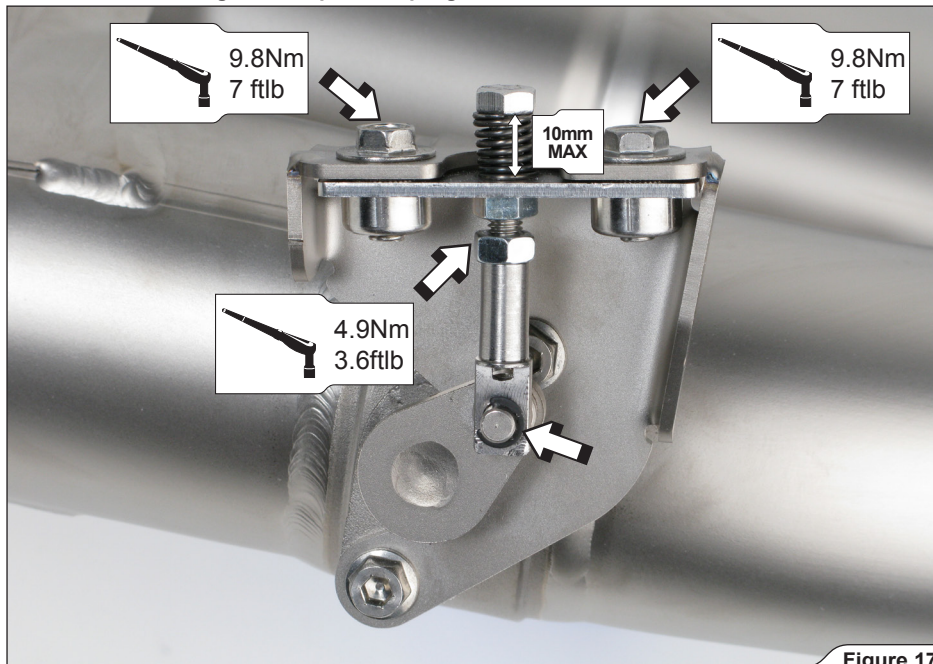

Figure 17
4. For V6 and V8-non turbo vehicle models without Akrapovič optional wireless kit only: **Closed position of the valves:** fixate the exhaust valves in the closed position, using brackets, bolts, nuts, springs, angular junctions and snap rings from Akrapovič installation kit (**Figure 17**).